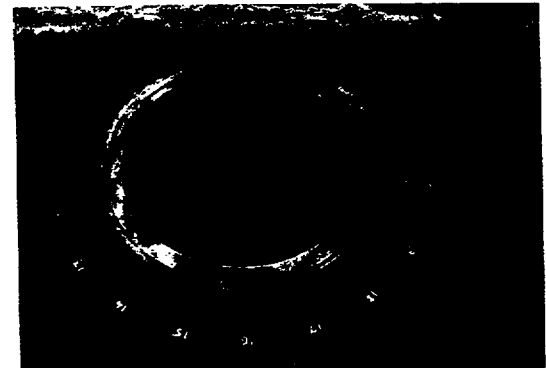

Figure 1: Gasket side of flange.
First, the flange was UT tested from the OD. The indications were rather puzzling because the reflections were consistently from a cylindrical surface about 3.75" from the OD. A dry magnetic particle examination confirmed that the cracks extended more or less continuously in a circular path. The NDT examination was concluded with dye penetrant tests as shown in the photographs in Figures 1 through 4. It was quite evident that the flange was not a single piece component. A large inside diameter (ID) flange was reduced to a 14" ID unit by welding a 0.75" thick ring. The welding faces had been machined.